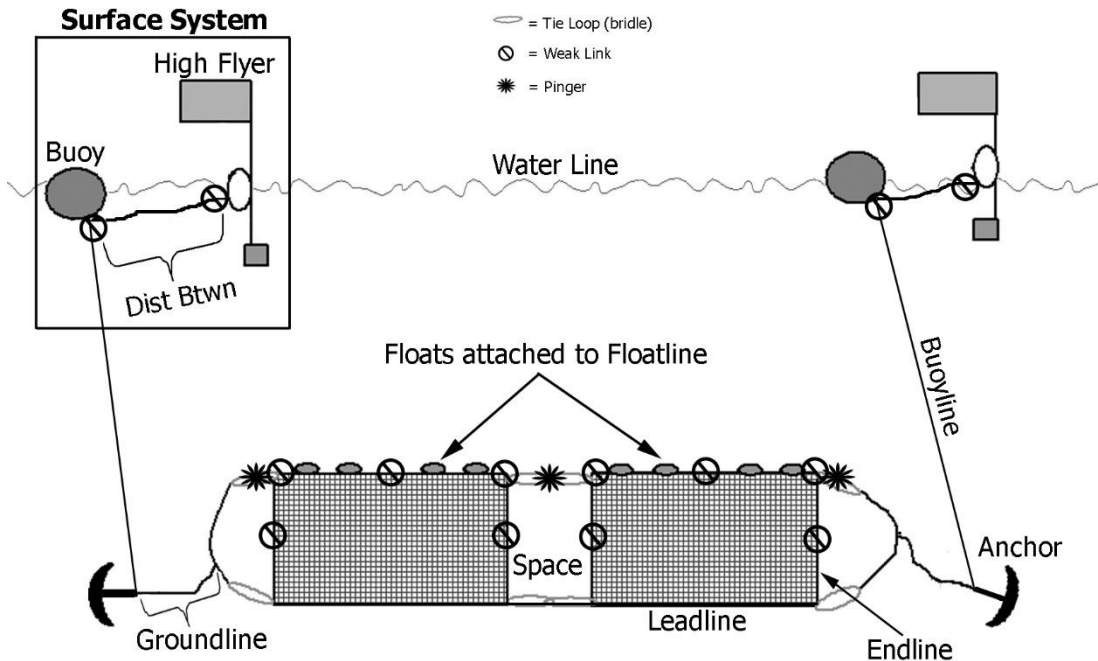

Figure 1. Anchored sink gillnet typical configuration.
**Gillnet:** One net, or a series of nets (a.k.a. panels, bundles or shots), tied together (a.k.a. “the string”), made of monofilament nylon stretched between a weighted leadline and floatline creating a vertical barrier of netting in the water column (see FIGURE 1).
*Surface system:* The configuration of high flyers and buoys and/or floats at the surface of the water that marks the gear (see FIGURE 1).
The gear is typically configured as a series of nets (“string”) tied together by the bridles which may or may not have spaces between each net. Typically, there is a surface system at each end to mark the location and ownership of the gillnet gear to the vessel (see FIGURE 5). The surface system refers to the configuration of high flyers and/or buoys at the surface of the water. The high flyer is a gear vessel identifier and a locator tool. The metal on the radar reflector is captured on the vessel’s radar screen. The surface system attaches to the gillnet gear with a line called a buoyline. The end of the buoyline connects to either an anchor or directly to the bridles of the net. The surface system attaches to the gillnet gear by a buoyline, which leads to either an anchor or directly to the bridles of the last net (see FIGURE 1).